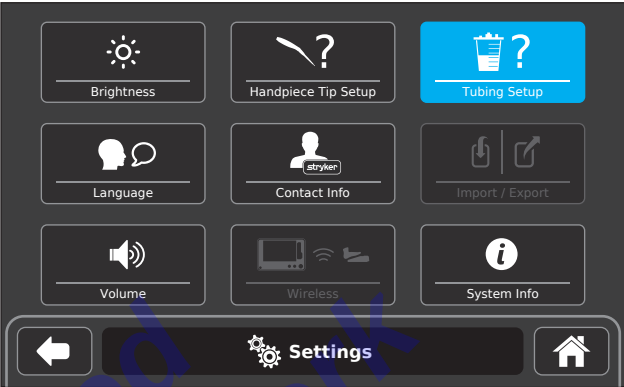

Figure 42 – Tubing Setup Selection
- 2. From the system SETTINGS screen, touch the TUBING SETUP button (Figure 42).